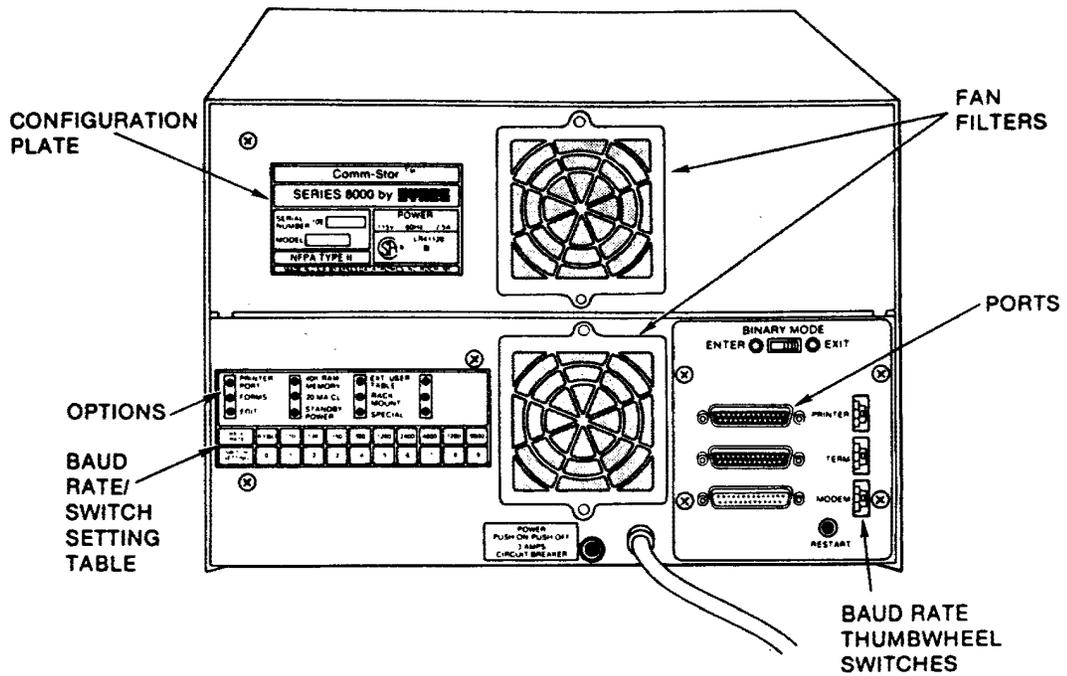

Fig. 2 - Rear View of the Comm-Stor II Unit
2.02 The option label on the rear panel of the Comm-Stor II unit indicates the options included at the time of manufacturing (Fig. 2).
2.05 A terminal, printer, and data set may be connected to the Comm-Stor II unit through industry standard ports on the rear panel of the unit (Fig. 2). No special wiring of the cables is necessary and all leads are wired pin-for-pin. Consult the manufacturer of peripheral equipment for any nonstandard pin assignments.